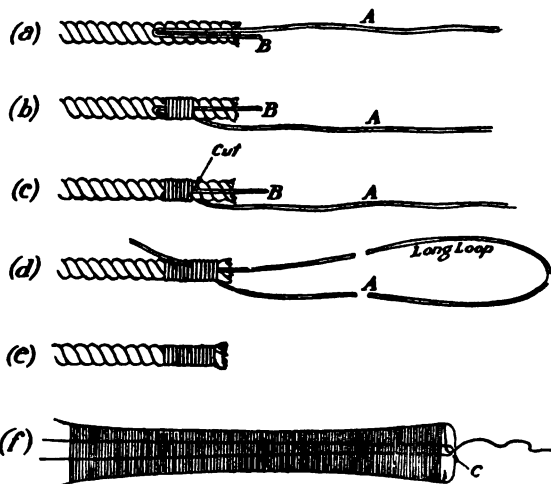

Fig. 154.—(a-e) Whipping a rope end, (f) and cricket-bat handle.
1. Bend one end into a loop, and lay the loop on the rope, as shown in Fig. 154, *a*.
2. Give the thread a few turns round the rope over the loop, part of which projects (Fig. 154, *b*).
3. Draw the short end, B, through until the loop is hidden under the whipping, and cut off the surplus close to the last turn (Fig. 154, *c*).
4. Lay the free end, A, on the rope, and continue the whipping over it with the slack (Fig. 154, *d*).
5. Finish by pulling A under the whipping until all slack is taken up, and cut off close at the point where it comes out. The finished end will appear as in Fig. 154, *e*.
is laid on so that it projects a little beyond where the last turn of the finished binding will be. When the binding string has been cut off, tuck the end through the loop and draw it under the binding and out by means of the loop, and cut off close (Fig. 154, f).